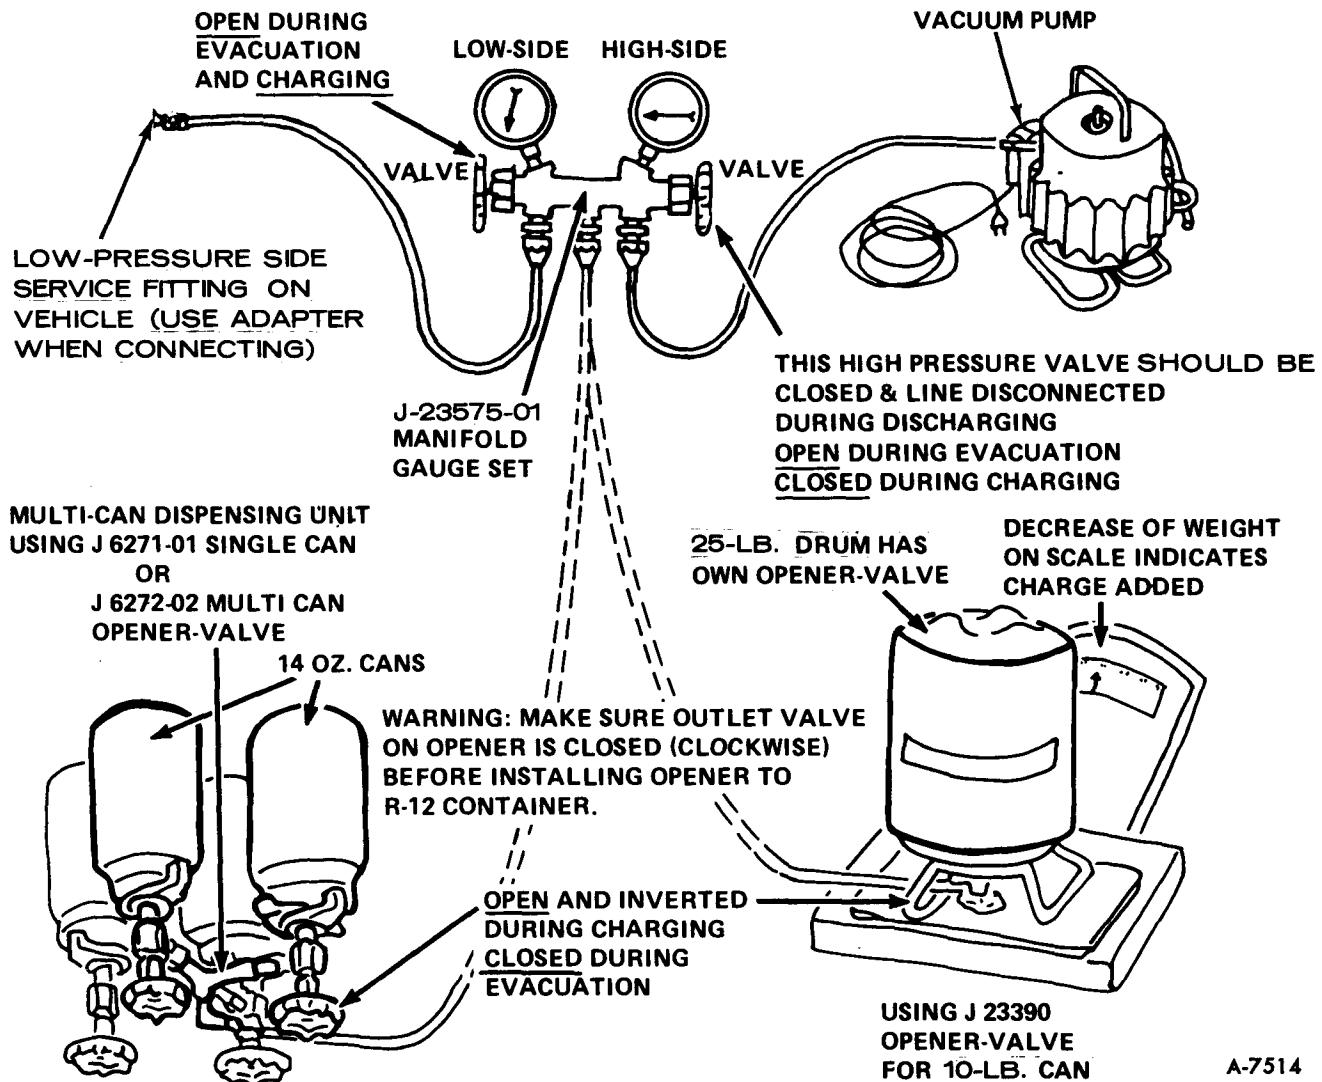

Figure 58—Charging the 1977 A/C System with Disposable Can or Refrigerant Drum
3. Close all the control valves on the manifold gauge set. If low pressure gauge line does not have a built-in Schrader type core depressor, install Gauge Adapter J-5420 onto the low pressure line of the Manifold Assembly. Place end of center manifold hose into an empty refrigerant bottle or covered can as shown in figure 58.
NOTE: An empty 3-lb. coffee can with a plastic cover as shown in figure 58 which has been cross-slitted (X'ed) works well for this purpose. This will allow refrigerant to be discharged safely. Container will also collect any oil lost due to rapid discharge of system, and will allow for later measurement of oil loss.
1. DO NOT CONNECT THE HIGH PRESSURE LINE OF MANIFOLD GAUGE ASSEMBLY TO THE VEHICLE AIR CONDITIONING SYSTEM. (High Pressure Gauge Line connects to Vacuum Pump as shown in figure 58)
1. Connect manifold gauge assembly J-23575-01 as shown in figure 58, attaching low pressure gauge line to LOW SIDE service fitting. If hose is not equipped with Schrader-type valve depressor add J-5420 adapter to the gauge line before connecting line to LOW SIDE service fitting. Attach high pressure gauge line to the vacuum pump. Connect center hose of manifold to the R-12 source. If a Refrigerant-12 drum is used, place it on a scale and note the total weight before charging. Watch the scale during charging to determine the amount of R-12 used.
With the vehicle A/C system evacuated and R-12 source containers attached to openers, as indicated in figure 58, charge the system using the following procedure: